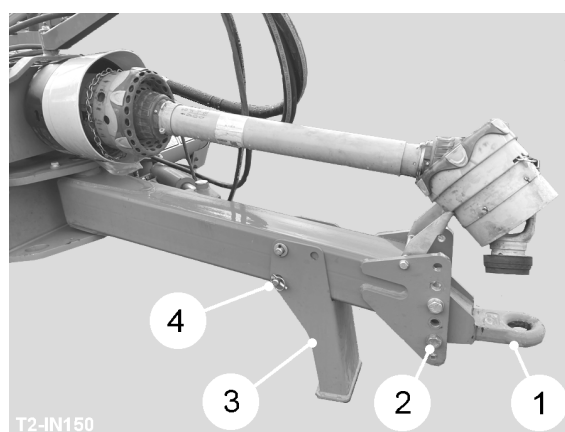

Fig 1
Raise the harvester on the pick-up hitch. The harvester chassis should be nominally level. If the chassis is in a nose up attitude or extremely nose down, the drawbar eye (item 1, fig. 1) should be adjusted accordingly to compensate. To adjust the eye position, remove the bolts (item 2, fig. 1) and move the eye to the required position. Refit the eye using a minimum of 2 bolts. The eye can be turned over to achieve a second range of adjustments. The stand (item 3, fig. 1) is provided so that the machine is held at a suitable height for safe coupling to the tractor. When the machine has been securely attached to the tractor, the stand can be folded back into the working position by removing the pin (item 4, fig. 1), rotating the stand and then re-securing with the pin.